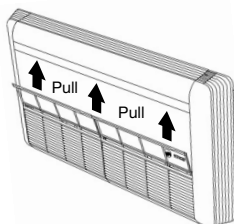

Figure 6
5. Pull air filters upward (Figure 6).